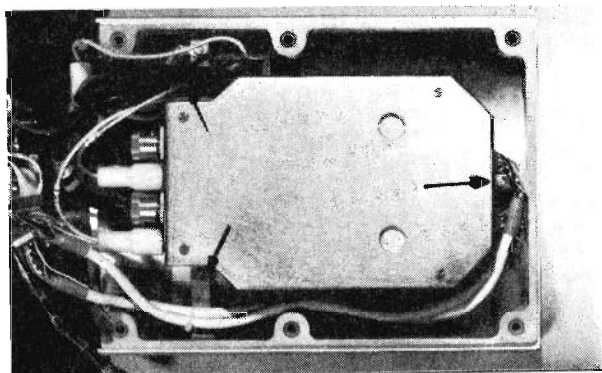

Fig.3 , II-generator mounted in the side box with 3 screws.
- (1) execute paragraph 3.1.
- (2) disconnect BGC1: X6, X7, X8 and X9 from the HT-unit
- (3) remove the HT-unit (3 screws) from the shield see Fig.3 page 26
- (4) disconnect BGC1: X2 and X3, connect the cables X2 and X3 to the new HT-unit
- (5) mount the HT-unit to the shield (3 screws)
- (6) connect BGC1: X6, X7, X8 and X9
- (7) execute para. 3.5.
- (15) turn the adjustment screws (3) untill you feel a resistance and lock them with the bolt
- (16) mount the ring with implosion plate; the finishing ring and finally the grid to the shield
- (17) mount the basic lens carefully to the II-tube (3 screws)
- (18) connect BGC1: X6, X7, X8 and X9 to the HT-unit and the earth lead to BA1, see Fig.3 page 26
- (19) execute para. 3.5.